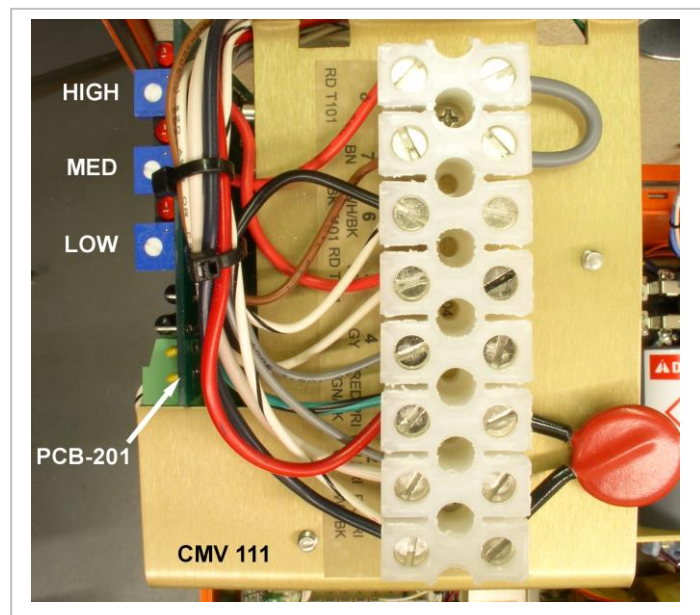

Figure 11b
A Series Lighting Circuit (SLC) can also be used for remote control if that option has been elected at the time of purchase. A setup procedure is then required at installation. Pages 12 through 15 have instructions that cover most set up variations. The adjusting potentiometers (labeled HIGH, MED, and LOW) are on a circuit board (PCB-201) that is added to the CMV 111 Controller as a sub-assembly. The adjusting potentiometers are shown in Figure 11b.
Although the switching levels are initially set up at the factory it is likely that they will have to be fine-tuned upon installation due to specific conditions at your site such as the type of CCR in use and other loads that may be driven by the same CCR. Adjustments are made at the current sensing module shown in Figure 11b. This module is part of the CMV-111 Controller when Series Circuit Control has been purchased as an option.
4. At PCB 201 (See Figure 11b), adjust all three potentiometers, LOW; MED; & HIGH, fully counter clockwise (CCW).